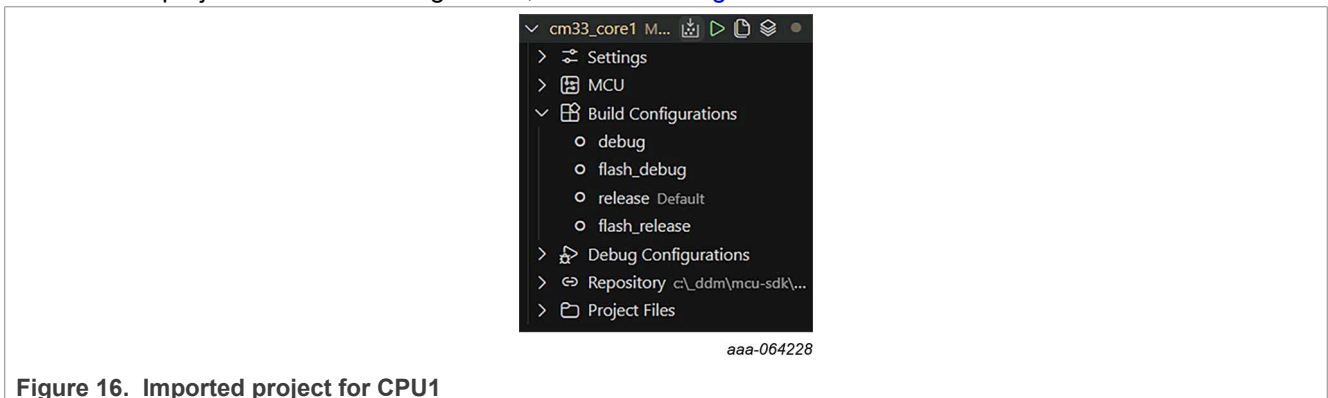

Figure 16. Imported project for CPU1
3. Build the project at release configuration, as shown in Figure 16.